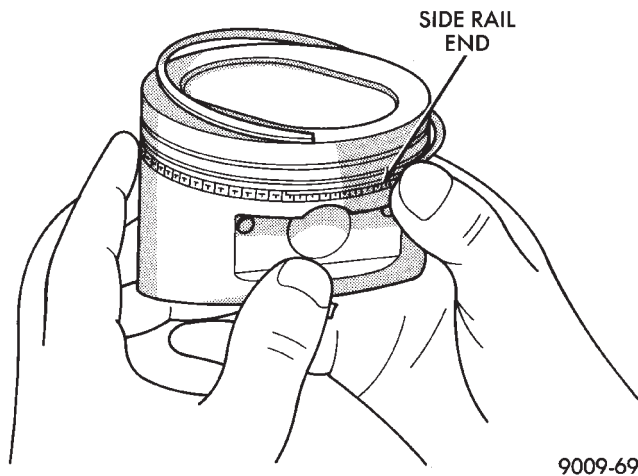

Fig. 63 Side Rail—Installation
(2) Install the side rail by placing one end between the piston ring groove and the expander. Hold end firmly and press down the portion to be installed until side rail is in position. **Do not use a piston ring expander.** (Fig. 63).
(3) Install upper side rail first and then the lower side rail.